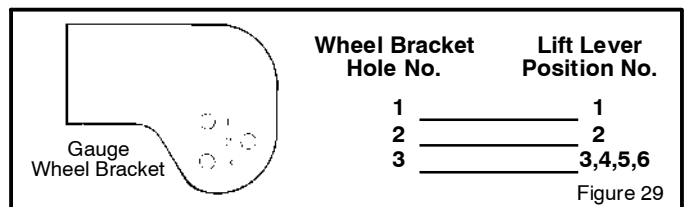

Figure 29
3. Look at each **gauge wheel bracket**. There are 3 holes in each bracket and a number next to each hole. The number for the height of cut position on the **lift lever** indicates the correct hole to use on each **gauge wheel bracket** (Figure 29).
4. Assemble the axle bolts to the **gauge wheel brackets** using the correct hole in the bracket as indicated (Figure 29).
**NOTE:** If the height of cut position is changed by the lift lever, you must move the gauge wheels to the correct hole (Figure 29) to keep a level height of cut.